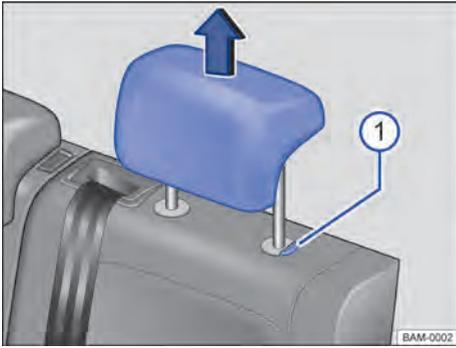

Fig. 66 Rear seat head restraint: removal
- Press and hold → Fig. 66 ① to remove the head rest.
- Press and hold → Fig. 66 ① to push the head rest downwards.